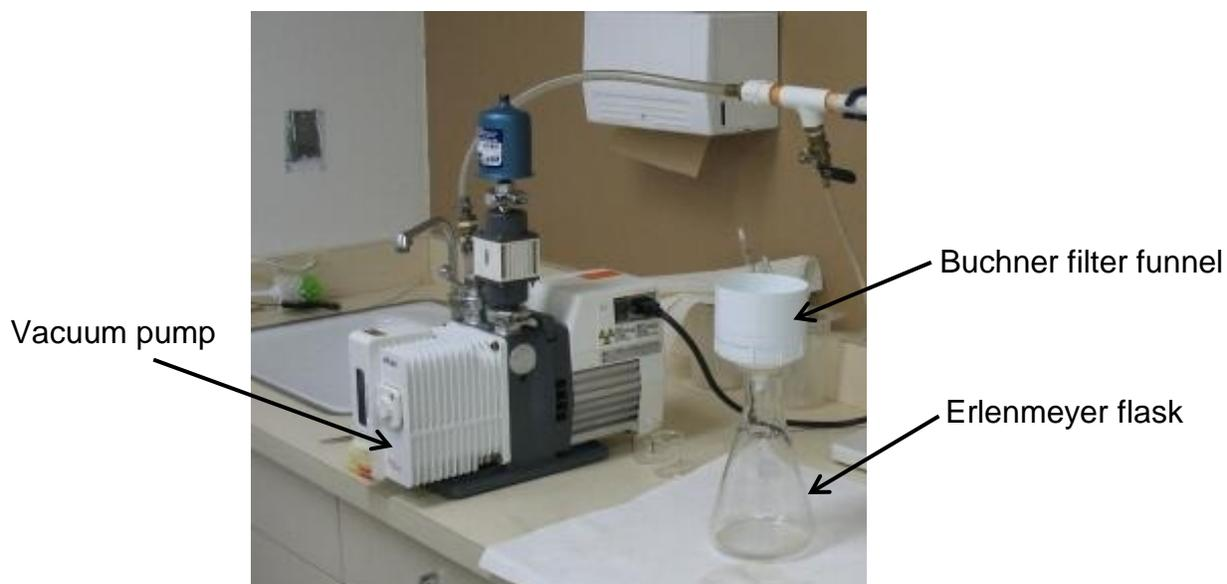

Figure 1. Filtering apparatus with Buchner filter funnel, Erlenmeyer flask, and Adixen vacuum pump.
- 3.2.3 Attach a Buchner filter funnel to an Erlenmeyer flask, then attach the tubing to the Buchner filter funnel (Figure 1).